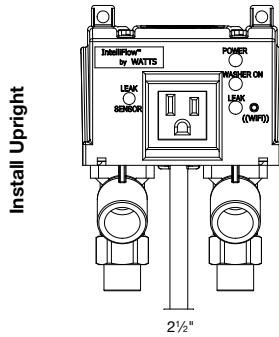

Figure 3
- Piping must be 2 $\frac{3}{8}$ " on center (Figure 3).